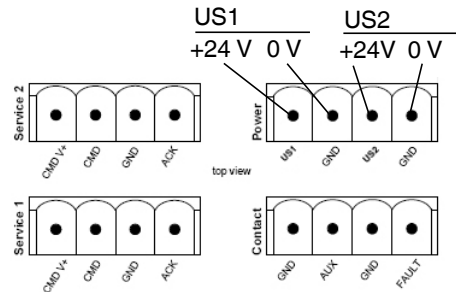

Figure 5-4 Connecting the voltage supply
- Insert the screw terminal blocks into the intended sockets on the top of the MGUARD (see Figure 5-4).